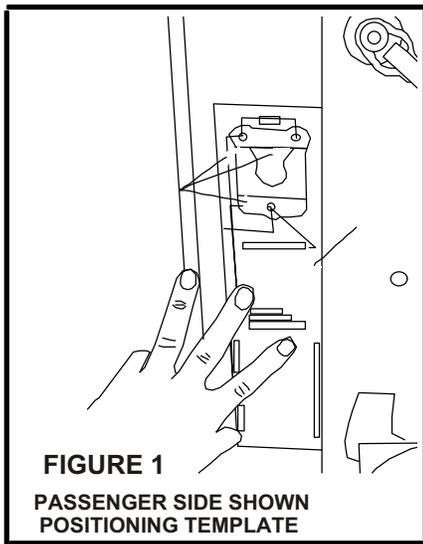

FIGURE 1
- STEP 2. Position and hold the template according to Figure 1. Use center punch in preparation to drill. (Mark or center Punch bedliner if the truck has a bedliner.)